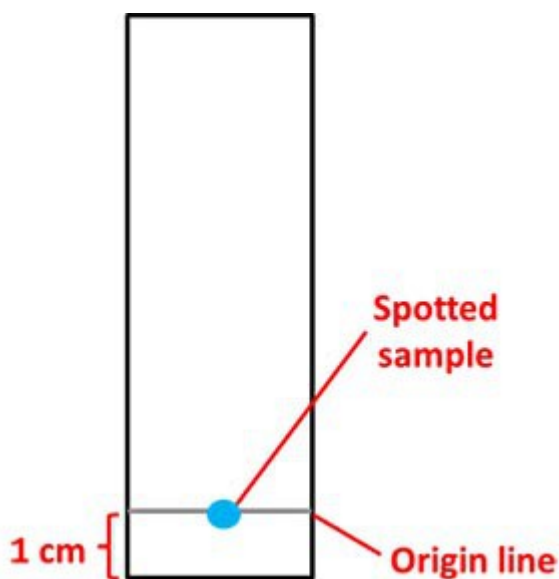

Figure 3. Each chromatography strip will have an origin line (baseline). The pen/marker ink to be tested will be spotted in the middle of the origin line.
2. Take one of the chromatography strips and use a ruler and pencil to draw a line across it horizontally 1 cm from the bottom. This is the origin line or baseline, see Figure 3 below for details. Repeat this step for all 15 of the chromatography strips.